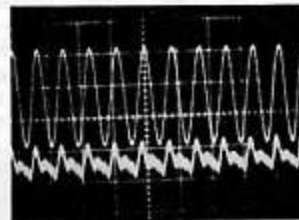

Fig 1.
- Fig 1. Power amplifier only. 1kHz, 100W, 8Ω, 0.0035% distortion.